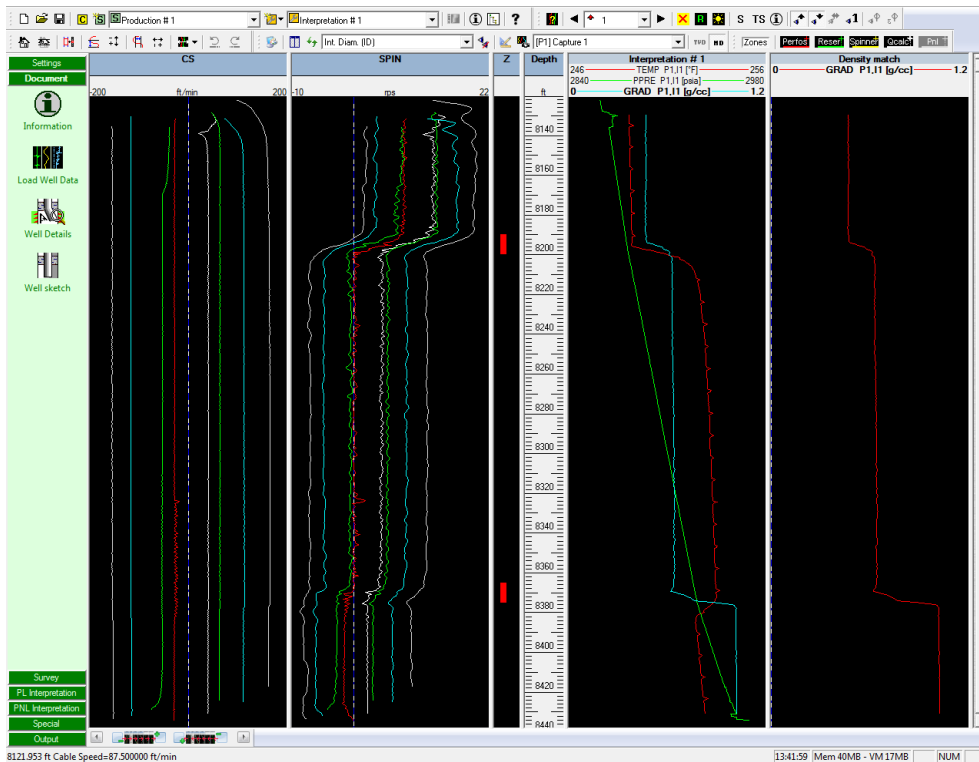

Fig. B01.28 • General Well data entered
- Move the view to the left of the Depth track, and Tile the plots: Fig. B01.28.